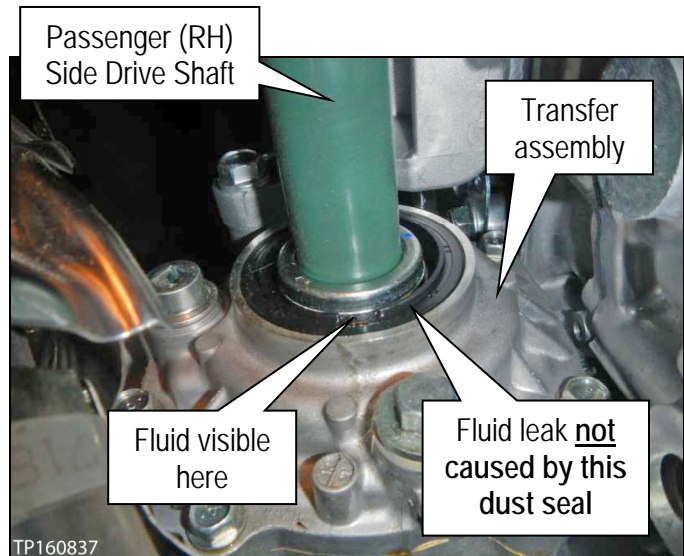

Figure 1
- The fluid leak is NOT caused by the dust seal shown in Figure 1.